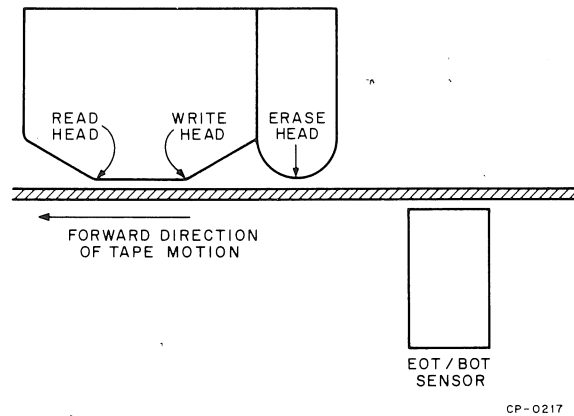

Figure 4-7 Head and EOT/BOT Sensor Positions
4.1.3.6 Forward BOT Delay — As shown in Figure 4-7, the EOT/BOT sensor is located some distance ahead of the read/write head on the tape path. Thus, when the tape is stopped with the BOT marker at the EOT/BOT sensor, the BOT marker is still some distance before the read and write heads. Because the industry-standard tape format requires that the first record be written at least 3 in. past the trailing edge of the BOT markers, all DEC magnetic tape controls must wait a specified length of time between initiating forward motion in the tape unit and commencing data transfers when starting an operation from BOT. This time period must be long enough to move the BOT marker past the write head and 3 in. beyond it.